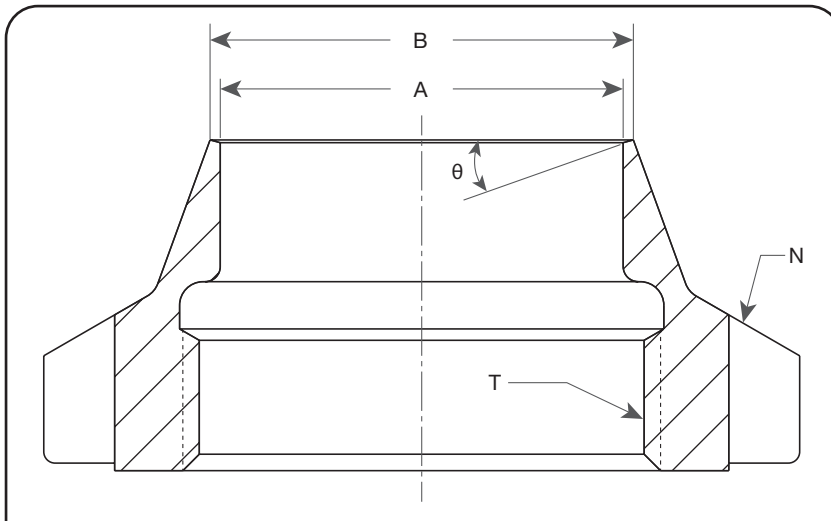

Figure 8: Adjusting Ring
- a. Inside diameter (A) exceeds maximum dimension or nicked.
- b. Outside diameter (B) is below minimum dimension or nicked.
- c. Threads (T) should be replaced if torn, galled or stripped.
- d. Adjusting ring notches (N) are worn or missing.
- f. Exceeds dimensions mentioned in Table 4 and Figure 8.